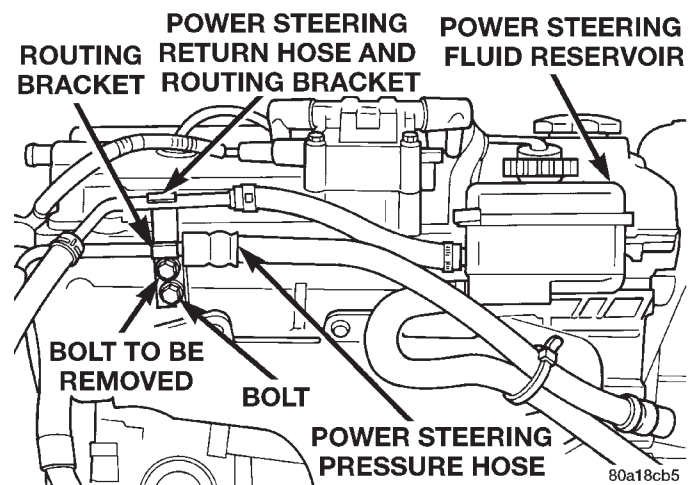
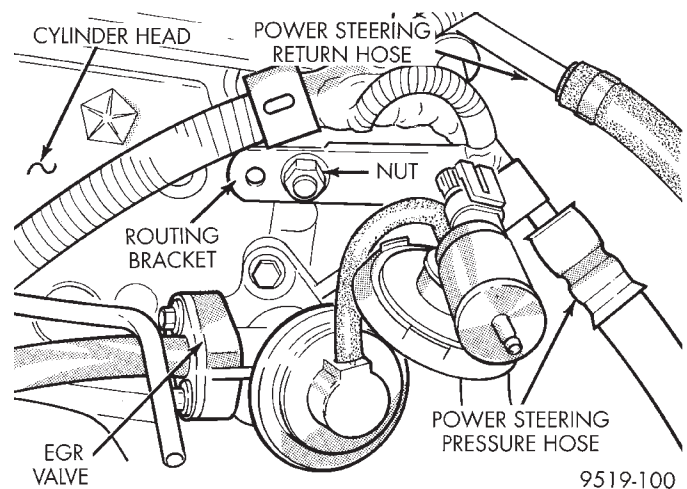
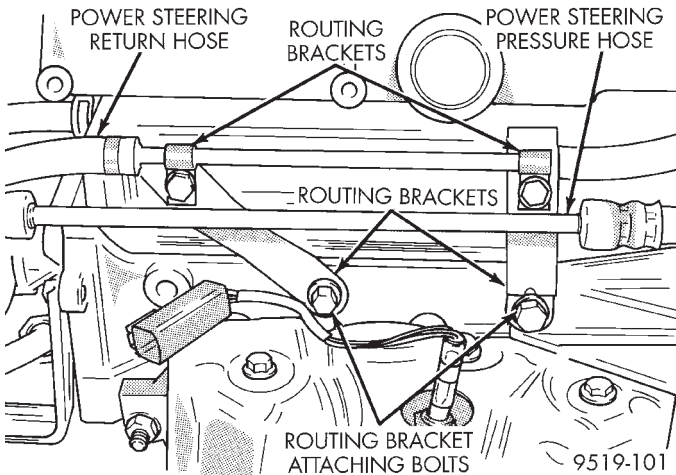

Fig. 11 2.0 And 2.4 Liter Power Steering Hose Routing
Fig. 12 Power Steering Hose Routing Bracket Attachment To Cylinder Head
Fig. 13 2.5 Liter Power Steering Hose Routing
(4) **If vehicle is equipped with a 2.0 or 2.4 liter engine**, remove power steering pressure hose routing bracket from the power steering return hose bracket on rear of engine (Fig. 11). Then remove the nut attaching the power steering pressure hose routing bracket to stud on side of cylinder head (Fig. 12).
(5) **If vehicle is equipped with a 2.5 liter engine**, remove the 2 routing brackets (Fig. 13) attaching the power steering return hose to the power steering pressure hose routing brackets. Then remove the 2 bolts attaching the power steering pressure hose routing brackets to the cylinder head (Fig. 13).
(6) Remove the tie-strap (Fig. 11) holding the power steering fluid supply hose to the power steering pressure hose.
attaching bolts on engine (Fig. 11), (Fig. 12) and (Fig. 13).
(10) Install the tie-strap (Fig. 11) holding the power steering fluid supply hose to the power steering pressure hose.
(11) Lower vehicle.
(12) Start the engine and let run for a few seconds. then turn the engine off.
(13) Add fluid if necessary. Repeat the above procedure until the fluid level remains constant after running the engine.
(14) Raise front wheels of vehicle off the ground.
(15) Start the engine. Slowly turn the steering wheel right and left, lightly contacting the wheel stops. Then turn the engine off.
(16) Add power steering fluid if necessary.
(17) Lower the vehicle and turn the steering wheel slowly from lock to lock.
(18) Stop the engine. Check the fluid level and refill as required.
(19) If the fluid is extremely foamy, allow the vehicle to stand a few minutes and repeat the above procedure.
(20) After hose is installed, check for leaks at all hose connections.